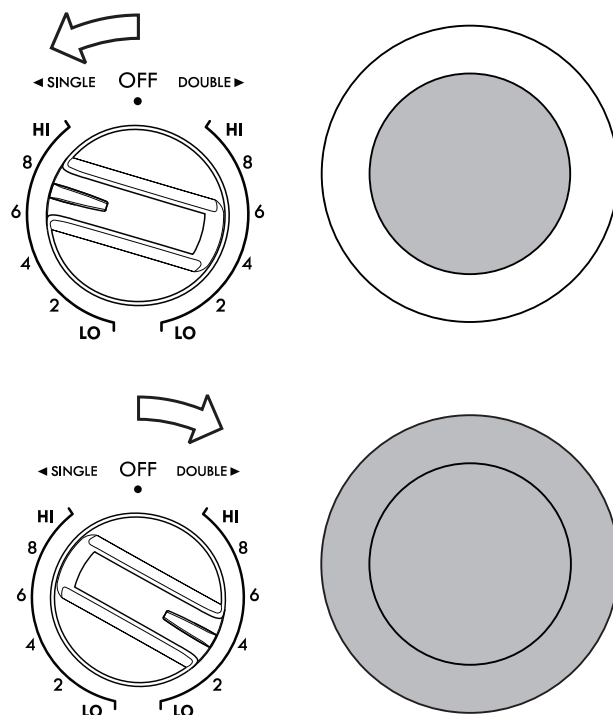

Figure 2: Dual element knob settings
2. Push in and turn the surface control knob clockwise to begin heating both the inner and outer elements. If only the inner element is needed for smaller cookware, push in and turn the knob counter-clockwise (see Figure 2).